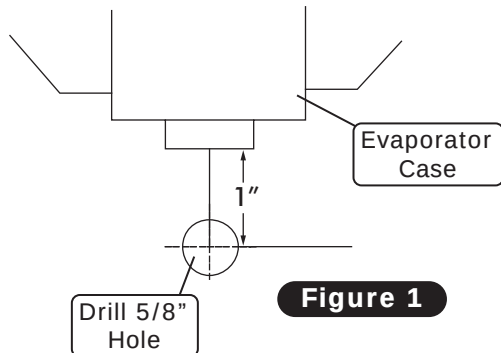

Figure 1
1. Install the louver housings under the dash as shown in Figure 1, below.
2. Install louvers into the housings as shown in Figure 1, below.
1. Install the center louver under the dash as shown in Figure 1, below.
2. In line with the drain, lightly make a mark on the firewall. Measure 1" down. Drill a 5/8" hole through the firewall (See Figure 1, below).
1. Locate the #8 compressor A/C hose. Lubricate (2) #8 O-rings (See Lubricating O-rings, Page 11) and connect the 135° female fitting with service port to the #8 discharge port on the compressor. Then, route the straight female fitting to the #8 condenser hardline coming through the core support (See Figure 1, Page 19). Tighten each fitting connection as shown in Lubricating O-rings, Page 11.
4. Using a 1" ID Adel clamp, a 10-32 x 1/2" pan head screw and a 10-32 nut with star washer, secure the #10 A/C hose to the alternator bracket as shown in Figure 1, Page 19.
1. Route a piece of heater hose from the water pump to the top heater fitting of the heater core as shown in Photo 2, Page 15, and Figure 1, Page 20. Secure using hose clamps.
2. Route a piece of heater hose from the intake to the bottom heater fitting of the heater core as shown in Photo 2, Page 15, and Figure 1, Page 20. **NOTE: Install heater control valve in line with intake manifold (pressure side) heater hose. Secure using hose clamps as shown in Figure 1, below. Also note proper flow direction.**